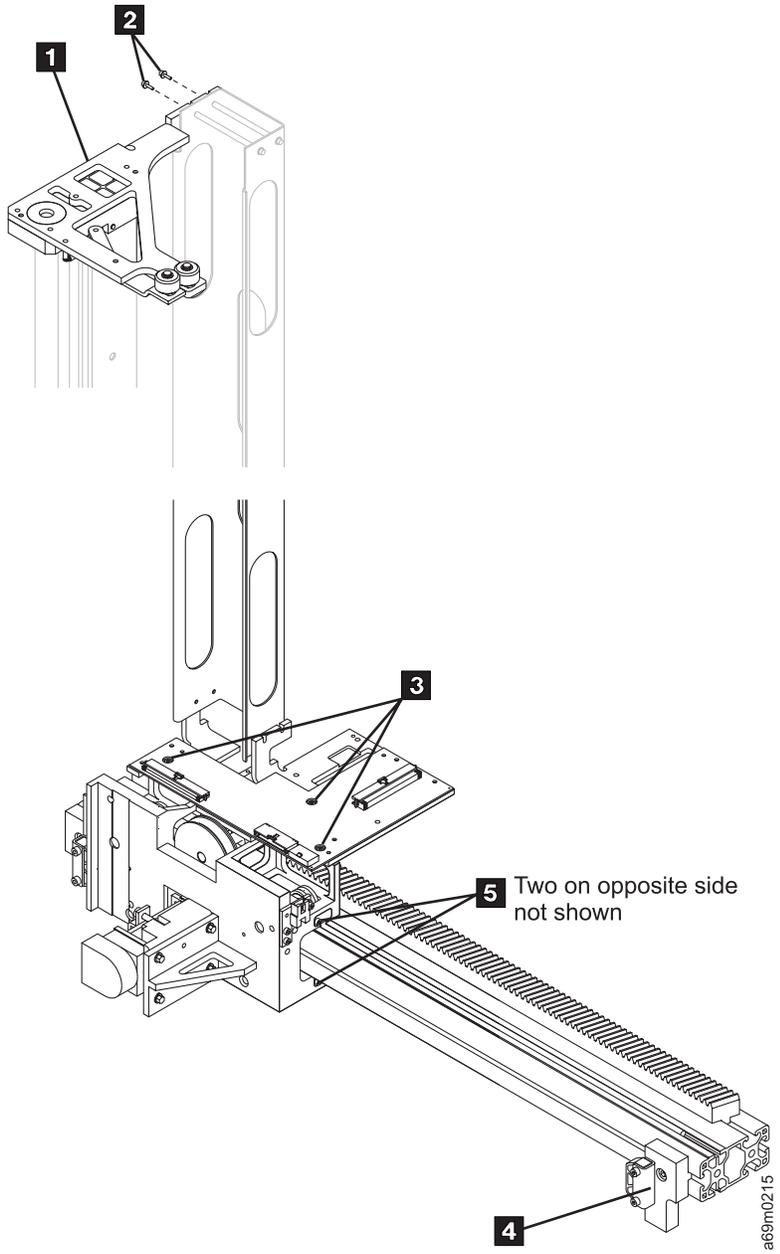

Figure 150. X-Axis Assembly
3. Refer to Figure 150 on page 651. Remove the screws **3** , and move the AXY card and Y-axis cable trough out of the way.